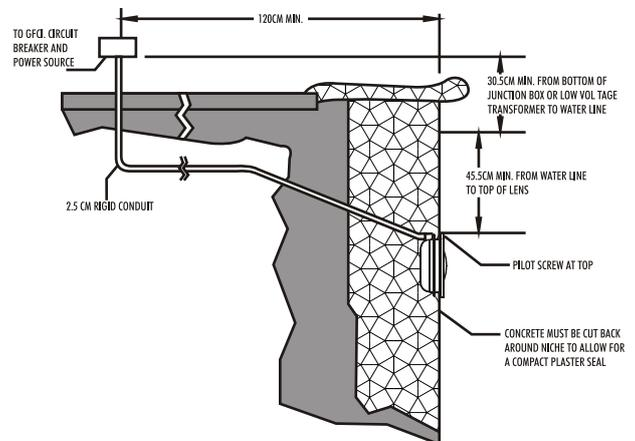

Figure 1.
#### **● Preparatory steps which must be completed by the electrician before light is installed, see Figure 1.**
- a. The junction box, or the low voltage transformer for 12 volt Underwater Light model is to be located at least 120CM from the edge of the pool, see Figure 1.
- b. The mounting bracket must be properly installed so that the top edge of the Underwater Light lens is at least 45CM below the surface of the water in the pool, see Figure 1.
1. Locate position on a vertical wall where light is to be installed. The top of the light lens must be 45CM below normal water level, see Figure 1.